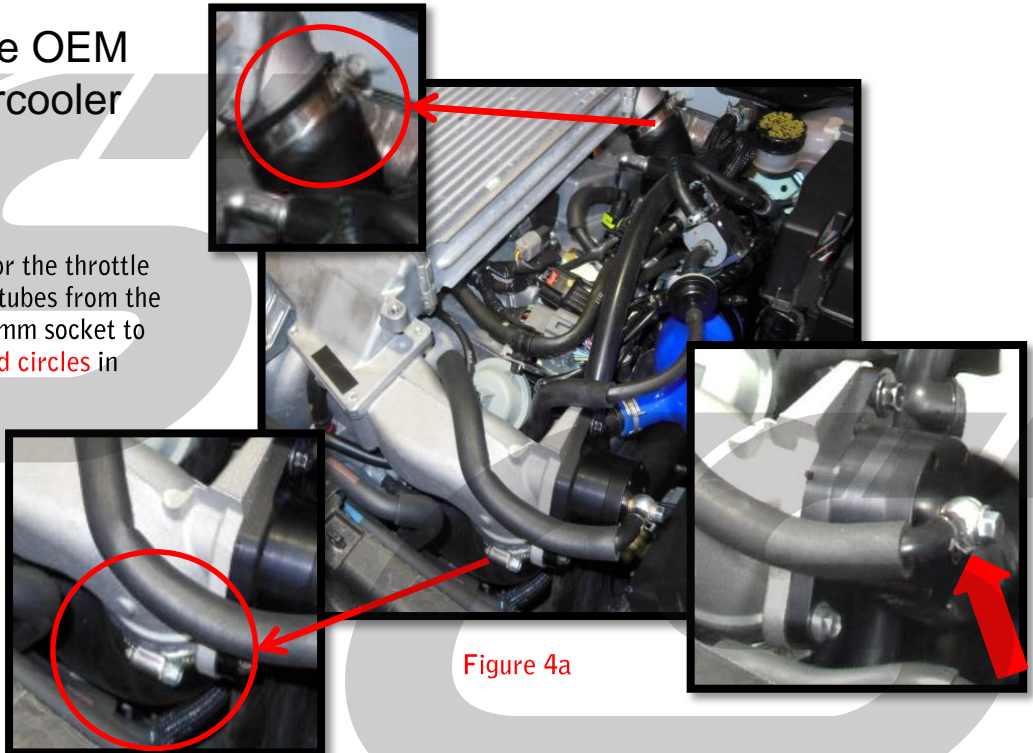

Figure 4a
- a) Remove the clamps for the throttle body and turbo boost tubes from the intercooler. Use a 10mm socket to loosen the clamps (**red circles** in **Figure 4a**).
- b) Detach the bypass valve (BPV) signal hose from the BPV. Release the spring clamp and then remove the signal hose from the BPV (red arrow in **Figure 4a** on previous page). Leave the bypass valve attached to the intercooler pipe.